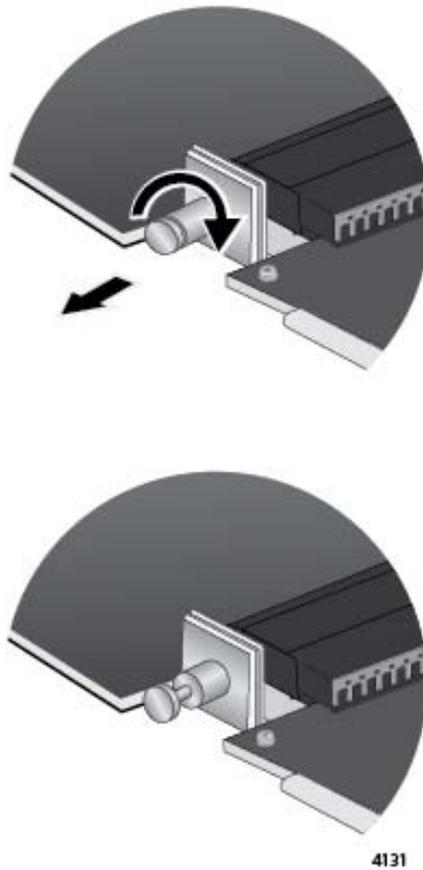

Figure 162. Retracting the Retaining Pin on the AT-SBx81XLEM Line Card
4. With your thumb and forefinger, pull out the retaining pin on the side of the line card and turn it clockwise one quarter turn until it remains in the retracted position. Refer to Figure 162.